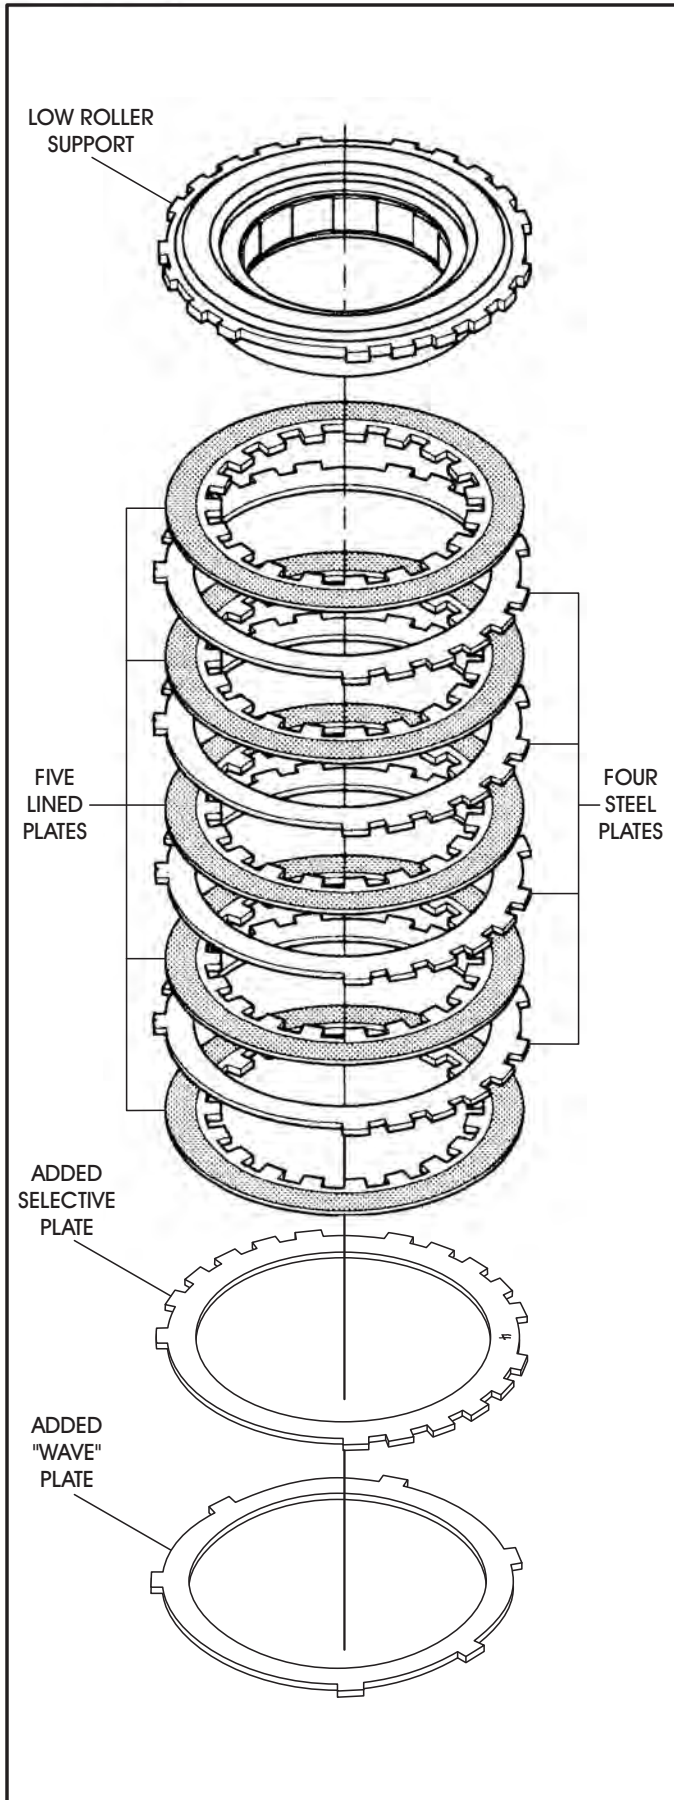

Figure 45
- (4) LOW/REVERSE CLUTCH PACK - Has an added "Wave" plate to help cushion the apply, and an added "Selective" plate to set clutch clearance, as shown in Figure 45. All models now use 5 frictions, 4 steels, 1 "Selective", and 1 "Wave" plate.